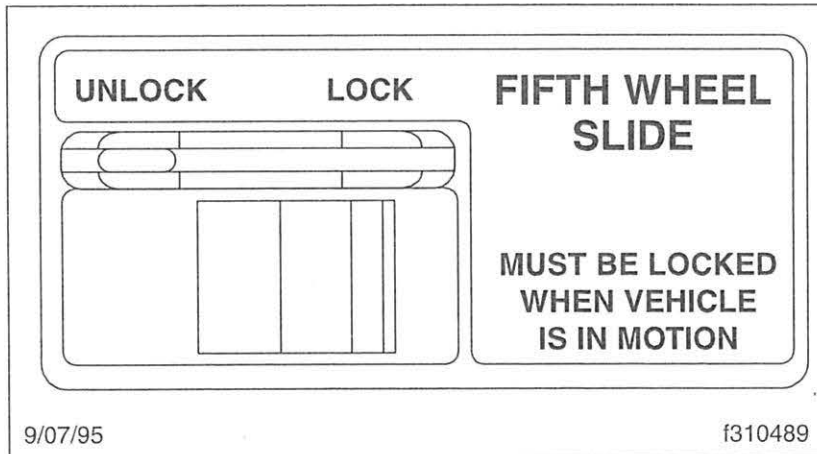

Fig. 10.18, Cab Control, Fifth Wheel Slide
- 2.1 For air-operated release models, set the cab-operated control switch (**Fig. 10.18**) to UNLOCK.